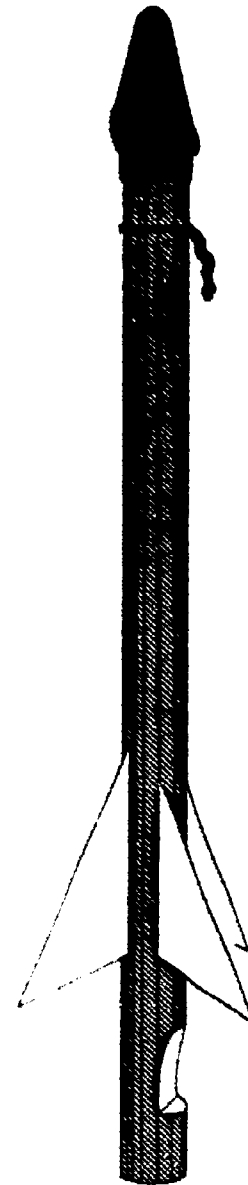

Figure 3
1. Take a short piece of baling wire and wrap it around the eraser end of the pencil about 2.5 cm from the end. Use pliers to twist the wire tightly so that it "bites" into the wood a bit. Next, bend the twisted ends into a hook as shown in Figure 3.
2. Take a sharp knife and cut a notch in the other end of the pencil as shown in Figure 3.